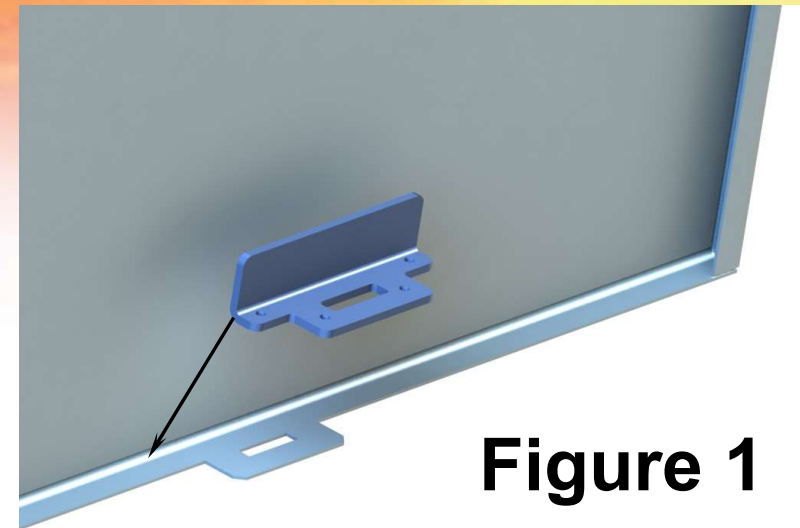

Figure 1
1. Place corner of Support Bracket(C) against corner of existing door panel making sure the rectangular cutout is centered with the cutout on the door tab. (Fig 1)